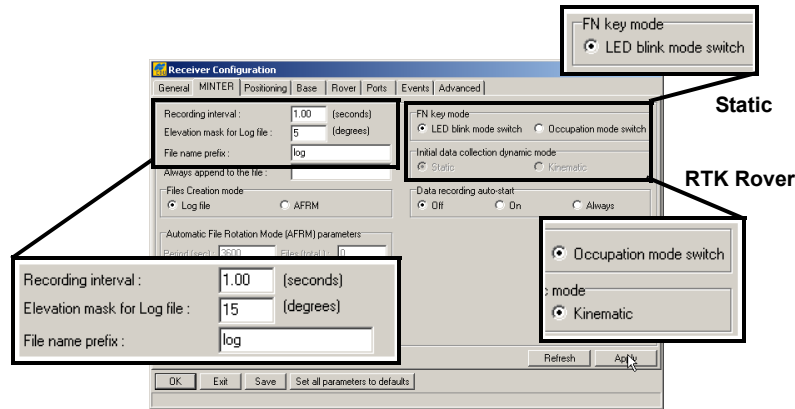

Figure 3-23. Configure Receiver's MINTER for Data Recording
7. Click the *MINTER* tab, and configure the following settings (Table 3-9), then click **Apply** (Figure 3-23).